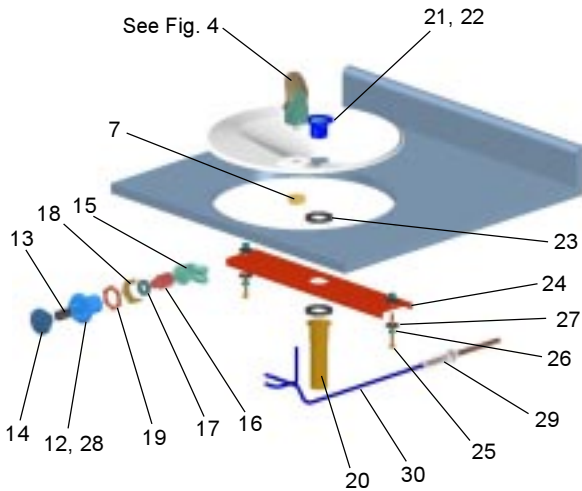

Figure 7
10. Check stream height from bubbler. Stream height is factory set at 45-50 PSI. If supply pressure varies greatly from this, remove push button (Item 14 - Figure 7) and adjust the screw on the regulator (Item 16 - Figure 7). To remove push button, remove setscrew from bottom of sleeve (Item 12). Clockwise adjustment will raise stream height and counterclockwise movement will lower stream height. For best adjustment stream should hit basin approximately 6-1/2" from bubbler.